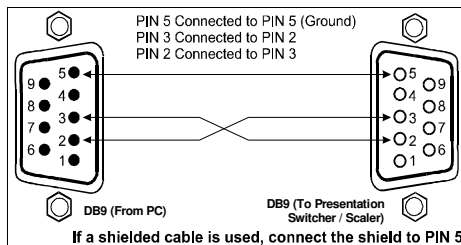

Figure 6: Connecting the PC
- Connect the RS-232 DB9 port on your PC to the RS-232 DB9 rear panel port on the **VP-725DSA** unit, forming a cross-connection3, as Figure 6 illustrates